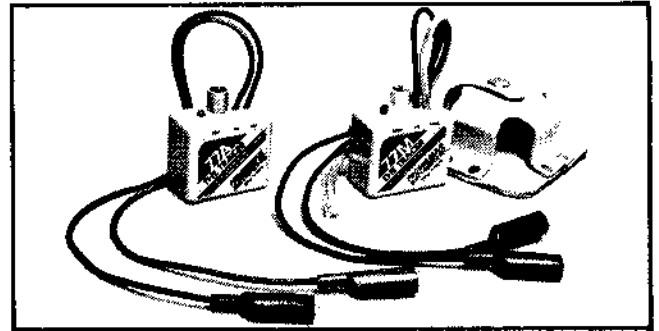
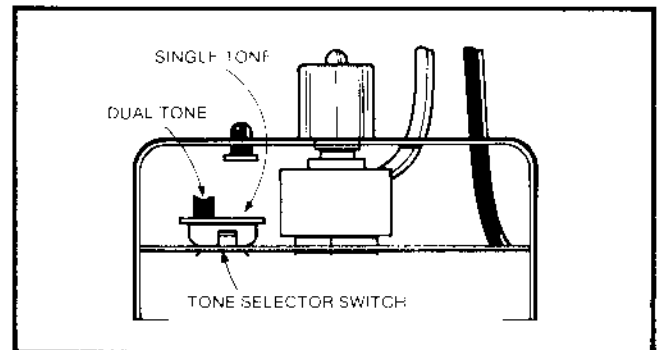

Figure 1 The Tracers Models 77A & 77M
Figure 2 Tone Selector Switch
2.01 The Tracer, Models 77A & 77M (See Figure 1), are housed in a yellow high-impact plastic case which measures 1¼" x 2" x 2¼", weighs 4 ounces and is powered by (1) 9V NEDA Type 1604 battery. Red and black test leads are provided on both models. The 77M, in addition to the 2 leads, has a standard 4 conductor modular cord and plug. A 3 position toggle switch controls the modes of operation plus a (LED) Light Emitting Diode is provided for line polarity testing. A tone selector switch (See Figure 2), located inside the test set is provided for choosing either a single solid tone or dual alternating tone. The Tracers are compatible with ESS, Step & Crossbar, and the output tone is isolated from DC voltages.